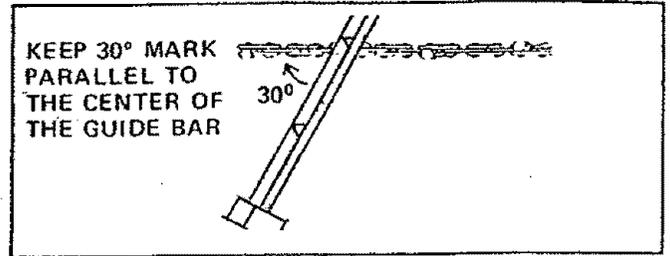

Figure 39
- b.) Hold the file holder level with the 30° guide mark parallel to the center of the chain. Figure 39.
- c.) File from inside toward outside of cutter, straight across, on forward stroke only. Use 2 or 3 strokes per cutting edge. Figure 39.